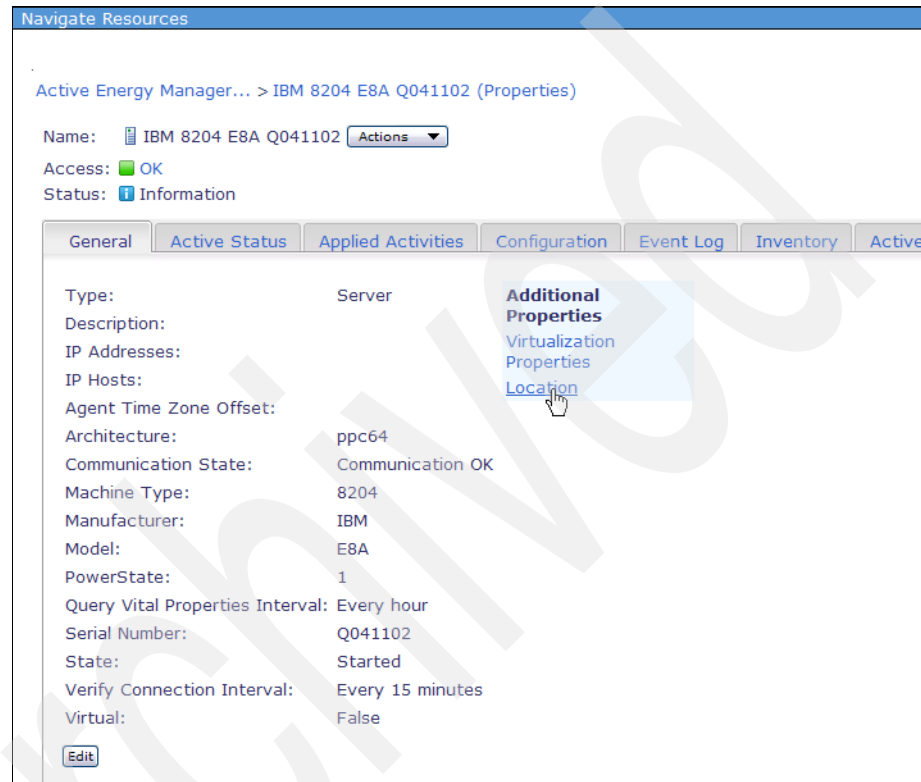

Figure 6-29 Setting the altitude for a resource - 1
2. On the properties display for the resource, click **Location** (Figure 6-29).